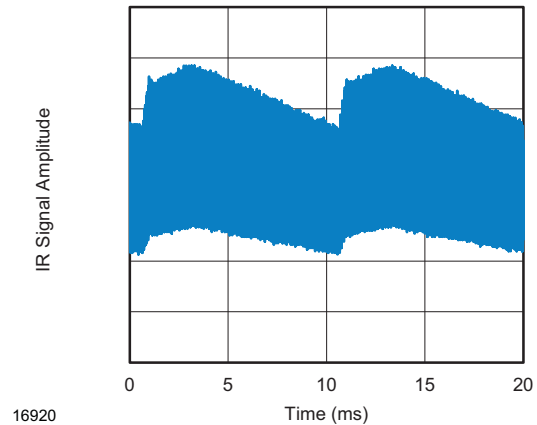
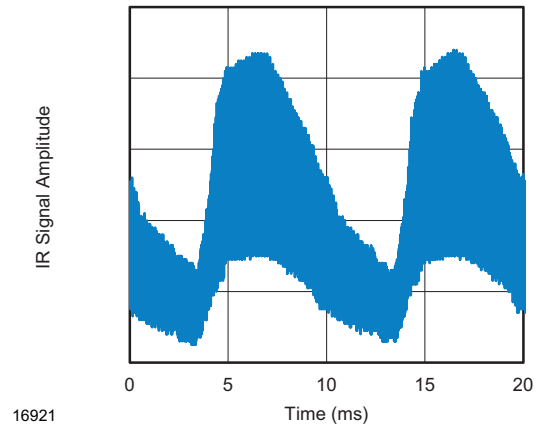

Fig. 13 - IR Disturbance from Fluorescent Lamp With Low Modulation
Fig. 14 - IR Disturbance from Fluorescent Lamp With High Modulation
- Modulated IR pattern from common fluorescent lamps (example of noise pattern is shown in Fig. 13 or Fig. 14)